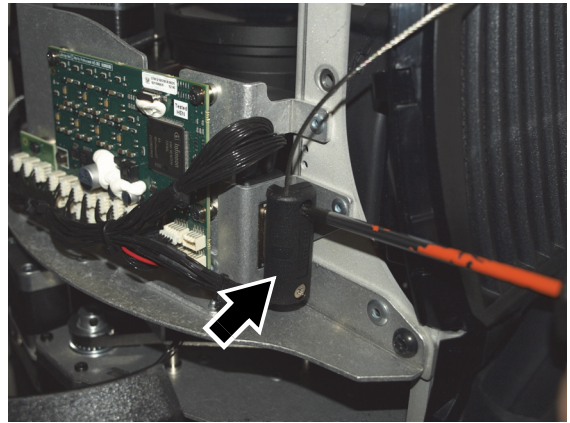

Figure 7
13. See Figure 7. Push the Beam Kit multiconnector (arrowed) onto the corresponding socket in the head and fasten it onto the socket with the two Torx 10 screws in the multiconnector.